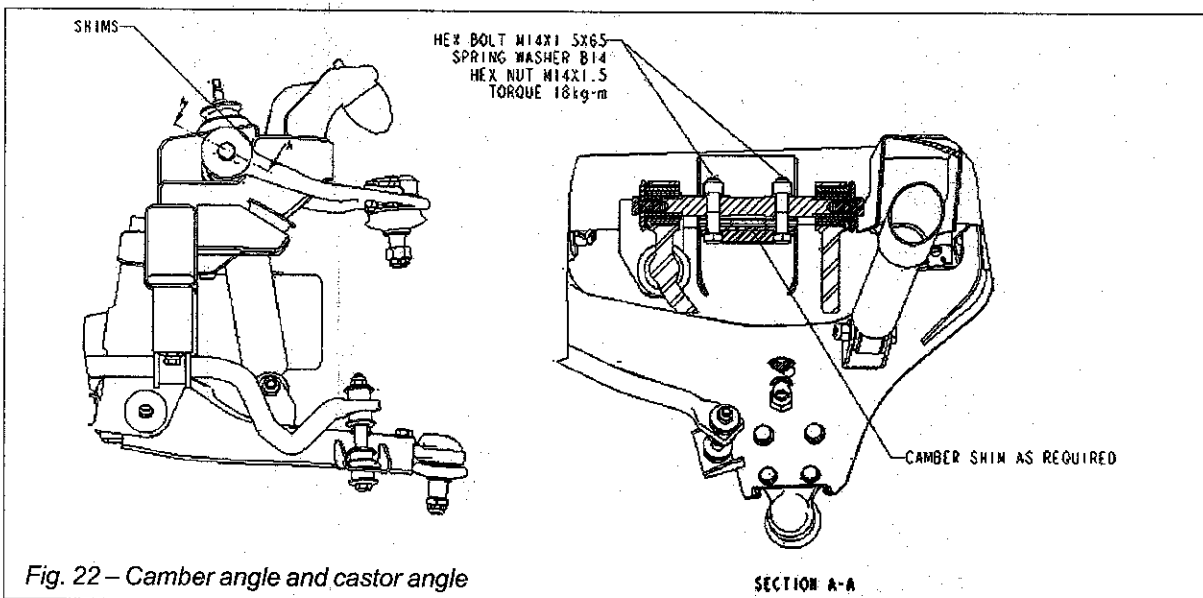

Fig. 22 – Camber angle and castor angle
7A. CAMBER ANGLE ADJUSTMENT (Fig. 22)
7B. CASTOR ANGLE ADJUSTMENT (Fig. 22)
- Adding shim at location 'A' will reduce the castor and at location 'B' will increase the castor. Adjust castor angle to $3^{\circ} \pm 30'$ as shown in (Fig. 22)
- Check castor angle. If castor angle is not within $3^{\circ} \pm 30'$ add only one shim of 0.8 mm thick at location 'A' or 'B' as shown in (Fig. 22) it will increase angle by 16'.